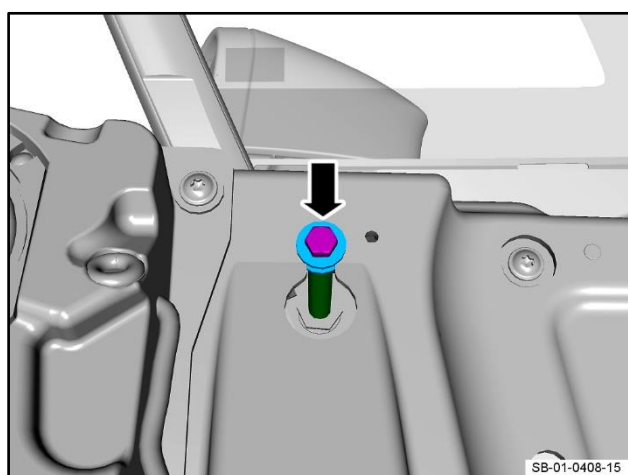

Figure 28
13. Put the bolt, spacer and washers into position (refer to Figure 28).